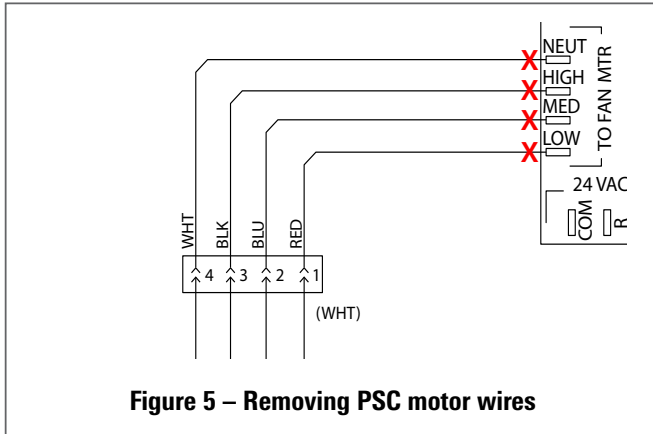

Figure 5 – Removing PSC motor wires
1. PSC motors. (See Figure 5.)
- v. Remove BLACK wire from "LINE VOLTAGE IN" portion of FCRB. (NOTE: for dual motor units ONLY, there will be two wires connected. Remove butterfly/Y connector and remove both wires from connector). Exact location of wire will be determined by the unit's voltage. (115V shown in Figure 5.)